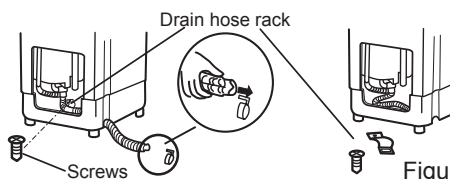

Figure 2
2. Put down the drain hose. Take off the drain hose hook. Then take off the screws of the drain hose rack. Put the drain hose into the cabinet. (As indicated in Figure 2).